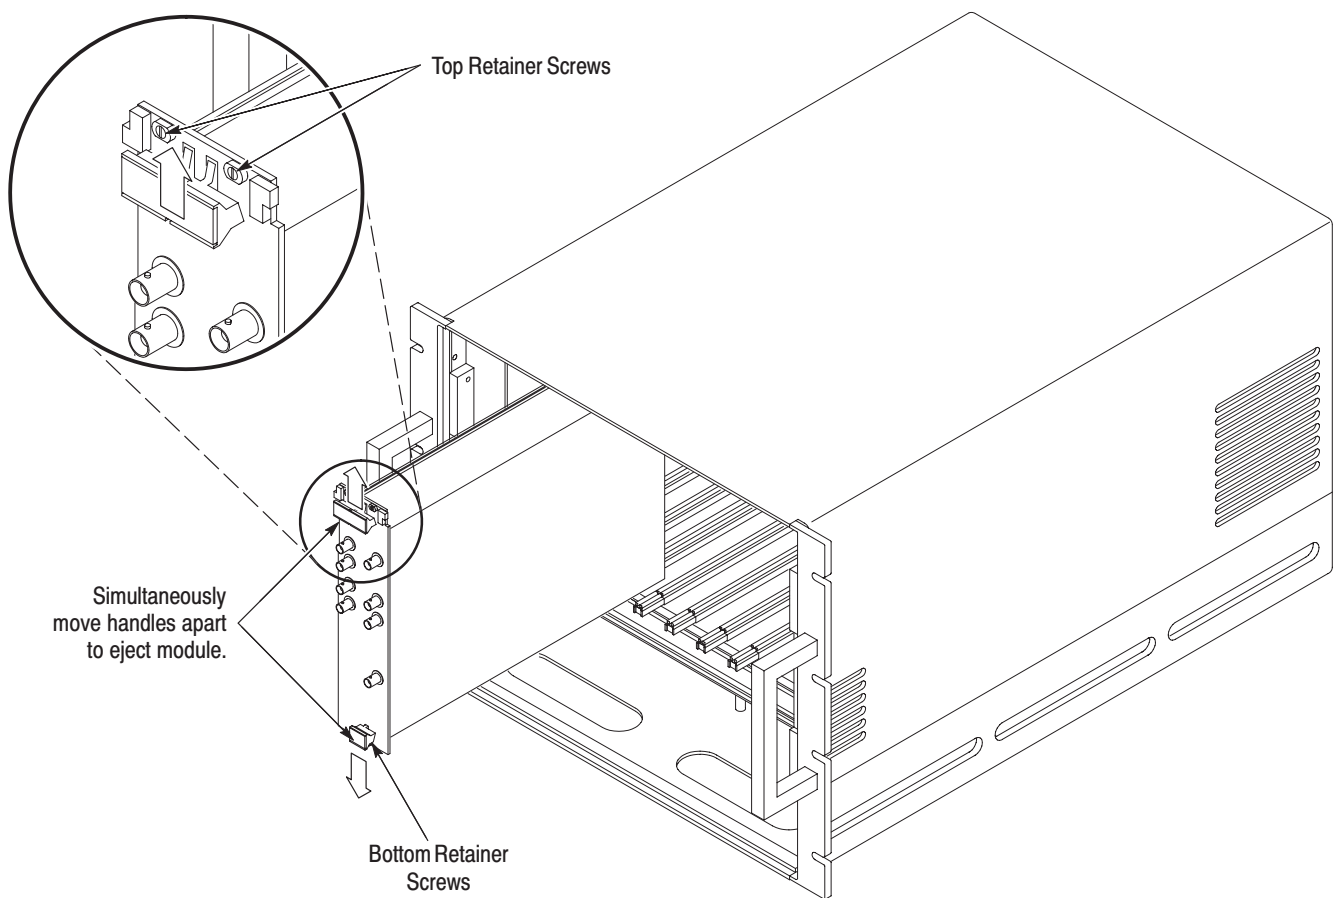

Figure 1–2: Module Retainer Screws and Ejector Mechanism
The logical address switch (Figure 1–1) is located beneath the right cover. The 8-section switch has the following characteristics:
1. Use a screwdriver with a size T-10 Torx® tip to remove six screws (Figure 1–1), then lift off the right cover.
Use the following installation procedure and Figure 1–2 on page 1–8 to install the waveform generator into the mainframe:
3. Insert the module into the mainframe top and bottom module guides and push it partially into the mainframe (Figure 1–2). Then slide the module into the mainframe as far as it will go without forcing it.